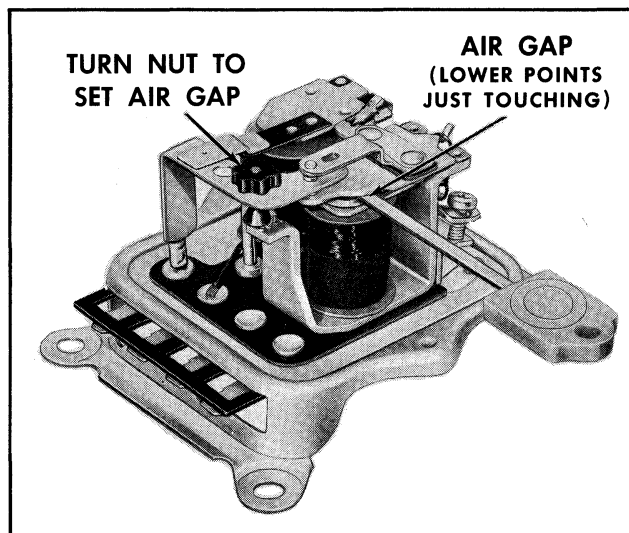

Fig. 11-35 Checking Air Gap
2. Air Gap: Measure the air gap with a feeler gauge between the armature and core when the lower contacts are touching as shown in Fig. 11-35. To adjust the air gap, turn the nylon nut located on the contact support (Fig. 11-35). (Adjust to .057").
J. The difference in voltage between the operation of the upper set of contacts and the lower set is increased by slightly increasing the air gap between the armature and center of core and decreased by slightly decreasing the air gap. See Fig. 11-35 for changing the voltage regulator air gap. If it is found necessary to make this air gap adjustment, it will be necessary to recheck the voltage setting of both sets of contacts. Always read final voltage setting with cover in place.